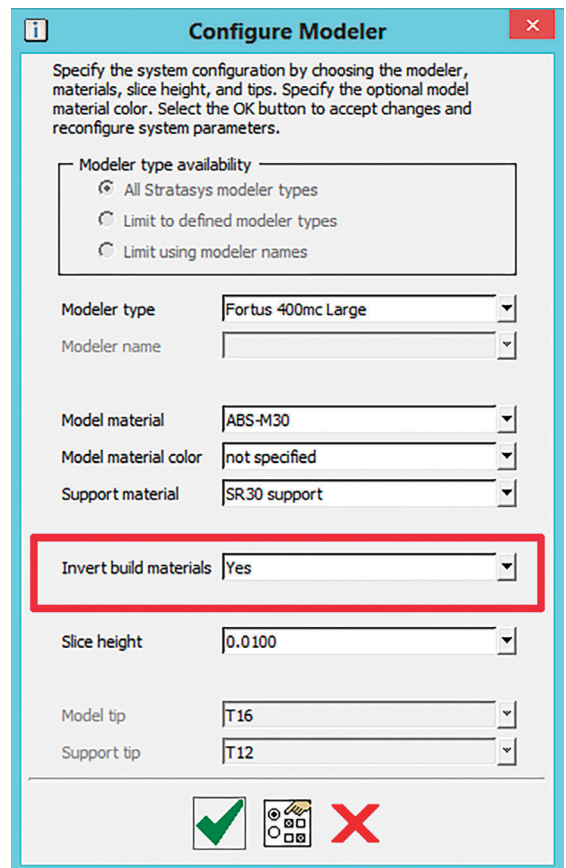

Figure 13: Check the Invert build materials box to make the core from soluble support material.
- Check **Invert build materials** box (Modeler > Setup... > Configure Modeler) (Figure 13).